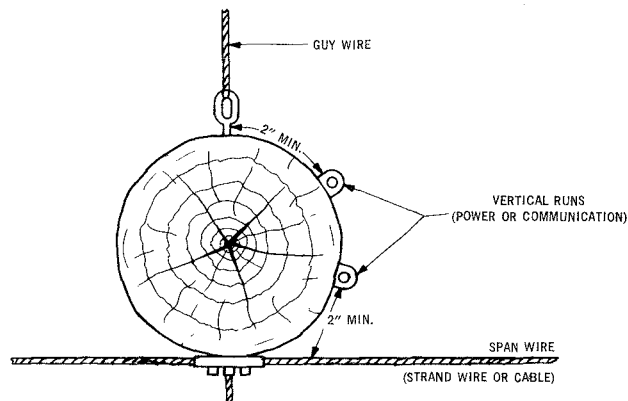

Fig. 2 — Minimum Separation Between Vertical Runs on Surface of Pole and Other Pole Attachments
**4.01** Vertical runs attached to the surface of the pole shall be separated from span or guy wires by at least 2 inches (See Fig. 2). Vertical runs enclosed in a moulding of adequate electrical insulating and mechanical properties